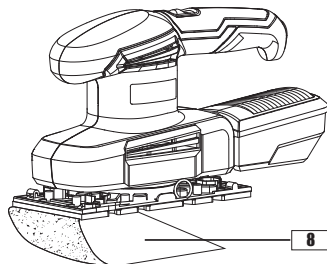

Fig. A2
- 8** Sanding paper (See Fig. A2)